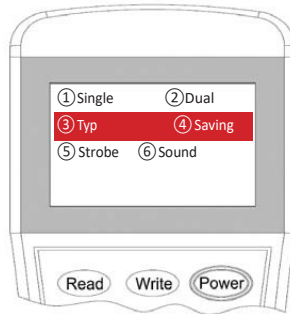

Figure 11
3. Input the “3” for **Typical** mode or “4” for **Saving** mode then press “Write” to change the setting into the desire mode (Figure 11).